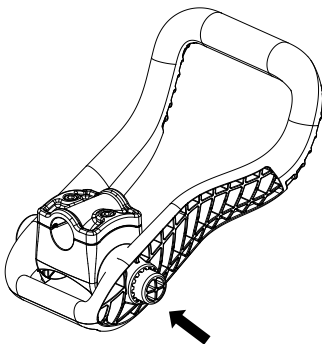

Fig. 2A
1. Before using the tool, adjust the angle of the mid grip handle by pressing the red button until mid grip can rotate. Release red button when preferred angle is reached. (Fig. 2A)